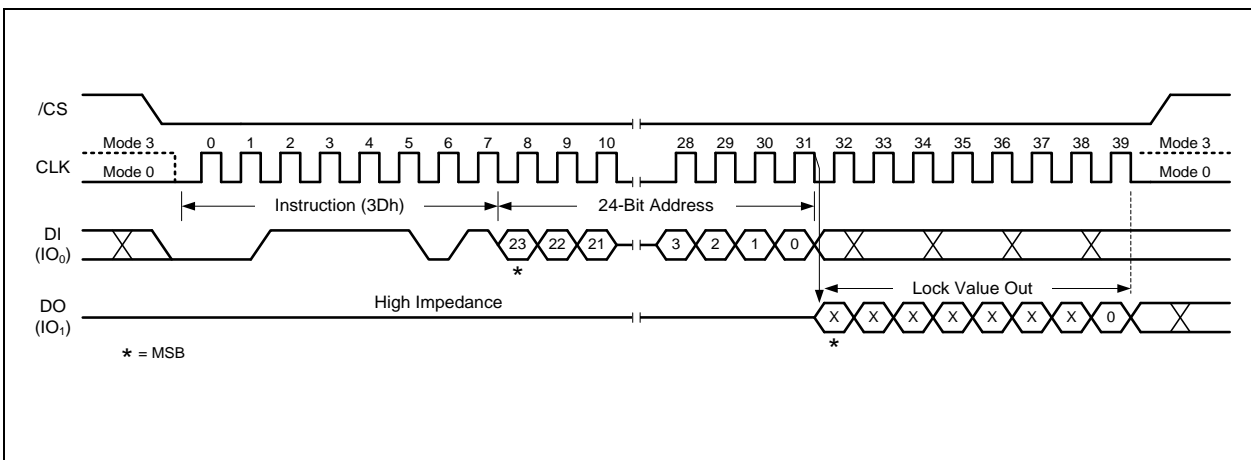

Figure 54. Read Block Lock Instruction
To read out the lock bit value of a specific block or sector as illustrated in Figure 54, a Read Block/Sector Lock instruction must be issued by driving /CS low, shifting the instruction code "3Dh" into the Data Input (DI) pin on the rising edge of CLK, followed by a 24/32-bit address. The Block/Sector Lock bit value will be shifted out on the DO pin at the falling edge of CLK with most significant bit (MSB) first. If the least significant bit (LSB) is 1, the corresponding block/sector is locked; if LSB=0, the corresponding block/sector is unlocked, Erase/Program operation can be performed.